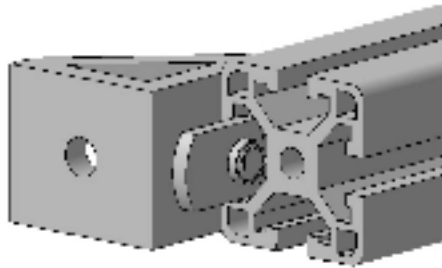

Fig. 4.9: Insert the screw (#KEDB) through the gusset bracket (#YKPV) and reach the nut (#YREC).
- ❑ Use two button head screws (#KEDB) and two T-nuts (#YREC) to connect one gusset bracket (#YKPV) with the 7" beam (T-nut inside the slot of the T-slotted beam). Do not fully tighten the fasteners. You may slide the gusset, screw, and T-nut while loose, as shown in Fig. 4.9.